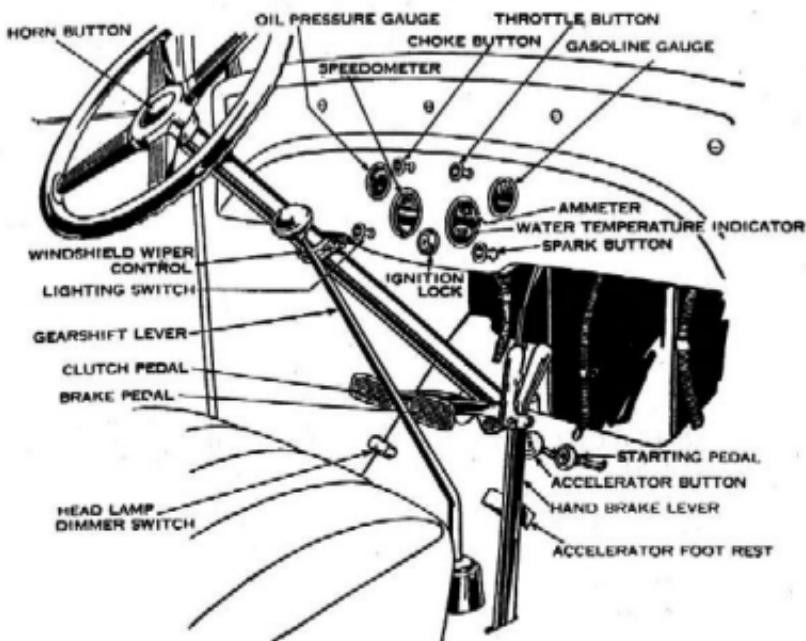

Fig. 2—Control Parts and Instruments
- 2nd—Spark and throttle buttons on instrument panel (marked "Spark" and "Throttle") are in their proper position for starting—namely, open throttle slightly by pulling out "Throttle" button approximately one-quarter inch from instrument panel. Do not retard (pull out) the "Spark" button when starting the motor. When driving, both the throttle and spark buttons should be pushed in against the instrument panel as far as they will go. This position closes the throttle and advances the spark. (Fig. 2).
- 3rd—Turn on ignition by inserting the key in the ignition lock on the instrument panel and turning to the right, which unlocks the lock and extrudes the lock barrel, thus closing the ignition circuit. To lock the ignition it is only necessary to push in on the lock plunger. (Fig. 2).
- 4th—Depress starter pedal, which extends through toe board, with right foot. (Fig. 2). REMOVE THE FOOT FROM THE STARTER PEDAL THE INSTANT THE MOTOR STARTS. DO NOT DEPRESS THE STARTER PEDAL THE SECOND TIME UNTIL THE MOTOR
7th—Push down on the clutch pedal with the left foot (Fig. 2) until the clutch is completely disengaged.
While in low speed position, the motor will run comparatively fast, yet the car will travel slowly. In order to increase the car speed, push the accelerator pedal (Fig. 2) slightly with the right foot.
The accelerator pedal (Fig. 2) is located adjacent to the service brake pedal on the toe board. Pressing down on this pedal causes the motor to speed up or accelerate. When pressure is released, a spring returns it to its normal position. Moving the throttle button out or in opens and closes the throttle and this also moves the accelerator pedal down or up, but pressing the accelerator pedal does not move the throttle button. It is possible, therefore, to set the throttle button for any desired speed and when pressure is removed from the accelerator pedal, the motor will not stop but the speed will drop back to that which has been selected by the throttle button.
When the decision has been made to stop the car, close the throttle button or remove your foot from the accelerator pedal. Allow the car to coast for a moment or two on its own momentum, then gradually press down on the service brake pedal (Fig. 2) until the car practically stops. However, just before the car has stopped, depress the clutch pedal, then move the gear shift lever into neutral position.
If the stop is to be made for some duration of time, always stop the motor before leaving the car and lock the ignition by pushing the lock barrel in the ignition lock. (Fig. 2.) Also, set the emergency hand brake lever, by pulling it back as far as it will go.
To unlock the ignition, insert the key and turn to the right. (Fig. 2.) The lock barrel will be extruded and thus close the ignition circuit. The key can not be withdrawn until the lock is locked.